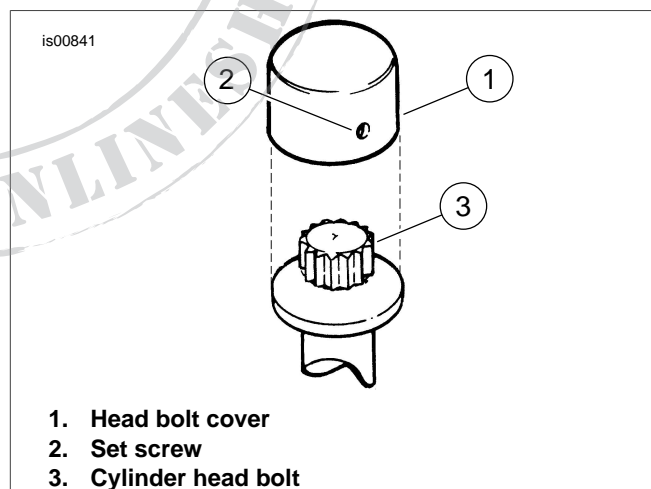

Figure 1. Head Bolt Cover Installation
2. See Figure 1. Install head bolt covers (1), on head bolts (3). Tighten using set screw (2) and Allen wrench included with kit. To prevent set screws from falling into the spark plug holes, start threading the set screws into the covers before placing them over the head bolts. Position cover on head bolt so that when spark plug is re-installed, set screw is hidden from view but accessible to an Allen wrench. Do not tighten set screws on high points of bolts.